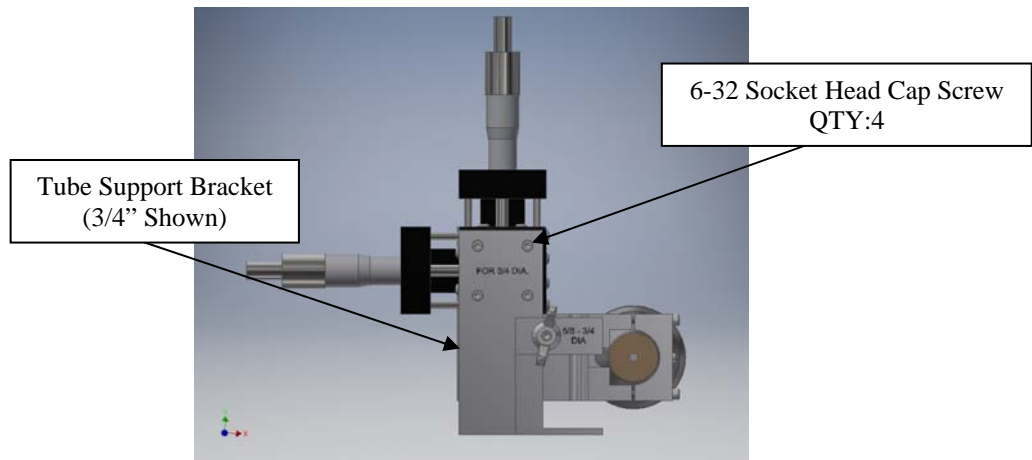

Figure 1 – Tube Support Bracket
- 1.1.2. Remove the four (4) 6-32 Socket Head Cap Screws from the face of the tool and remove Tube Support Bracket as shown in Figure 1.